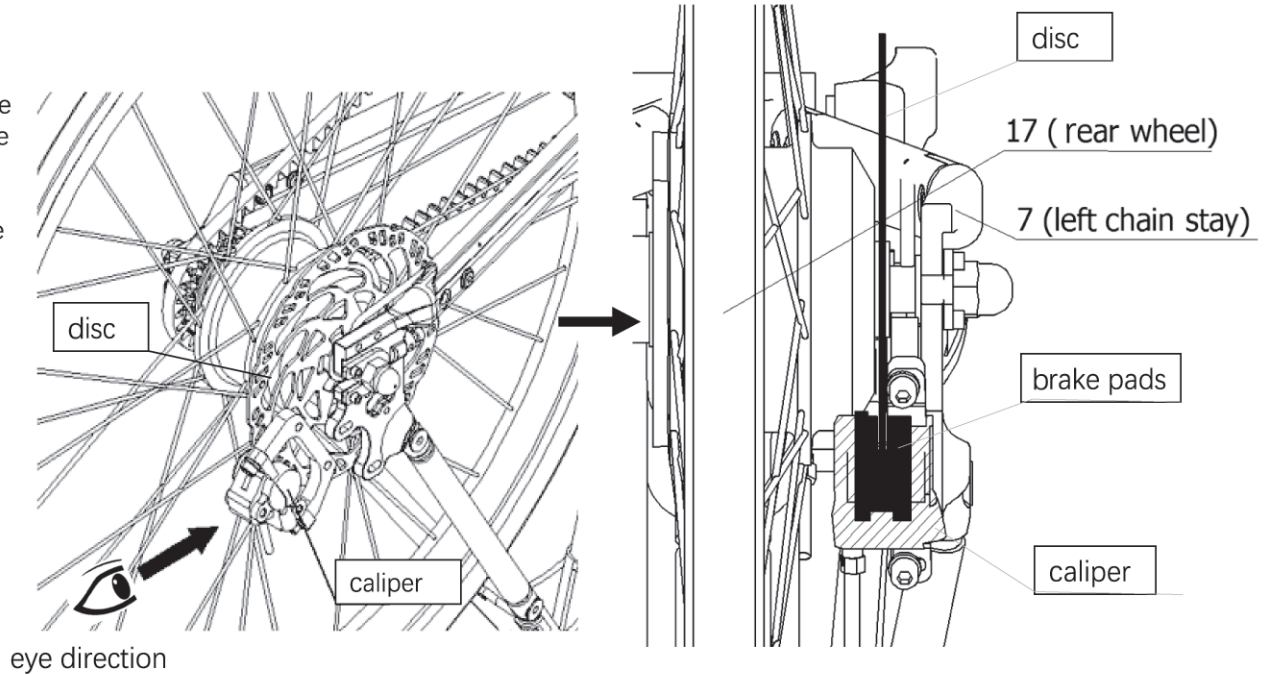

Figure 39.
c. Position the bike so that you view it from the rear and place the caliper so that the disc is placed between the two brake pads of the caliper, as shown in Figure 39.